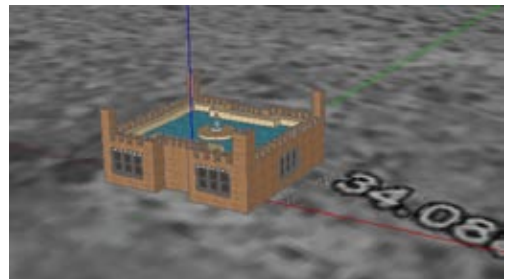

Figure 13-36
6. When placing the SketchUp model onto the Google Earth faces, displaying only the snapshot view makes the process easier. Download my Cliff Castle model from the 3D Warehouse, inserting this model directly into the current SketchUp file (Figure 13-36).